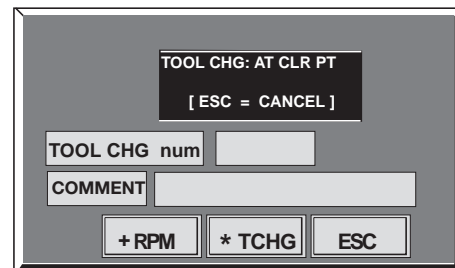

Figure G-17
3. Press the * key (* **CLR PT**) to access the dialog box shown in Figure G-17. Type the number of the Tool which will be changed at the Clearance Point then press **Enter**.